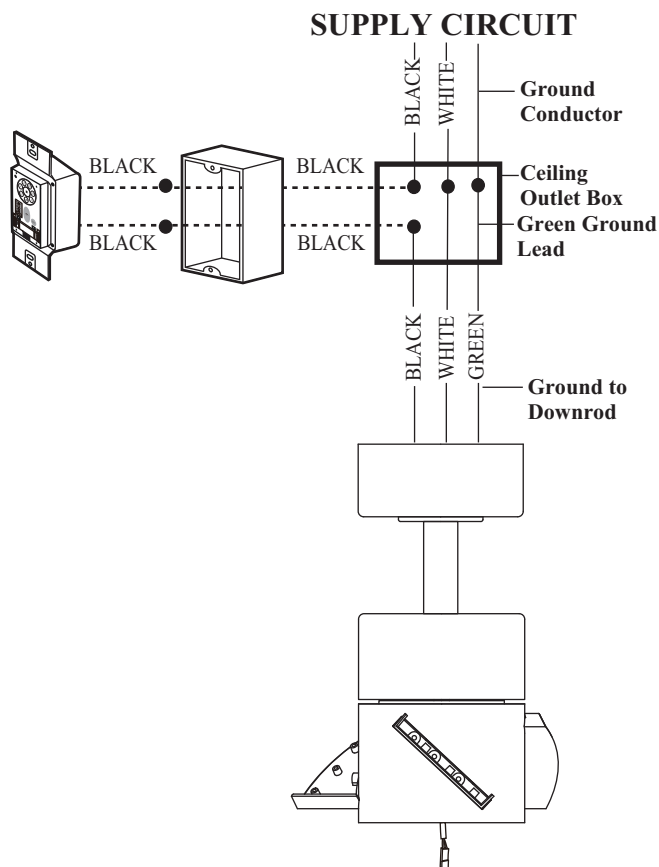

Figure 11
1. Connect the wall control supply (black) wire to the black household supply wire as shown in Figure 11.
2. Connect the wall control (black) wire to the white neutral household wire. (Fig. 11)
1. Connect the fan supply (black) wire to the black household supply wire (Conductor cable between ceiling and wall outlet box). (Fig. 11)